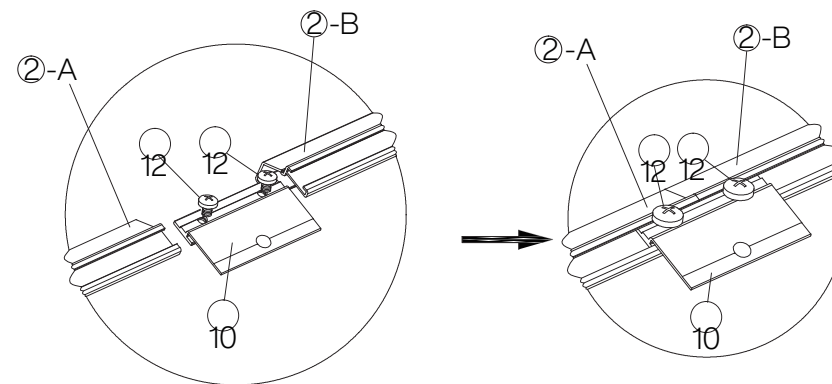
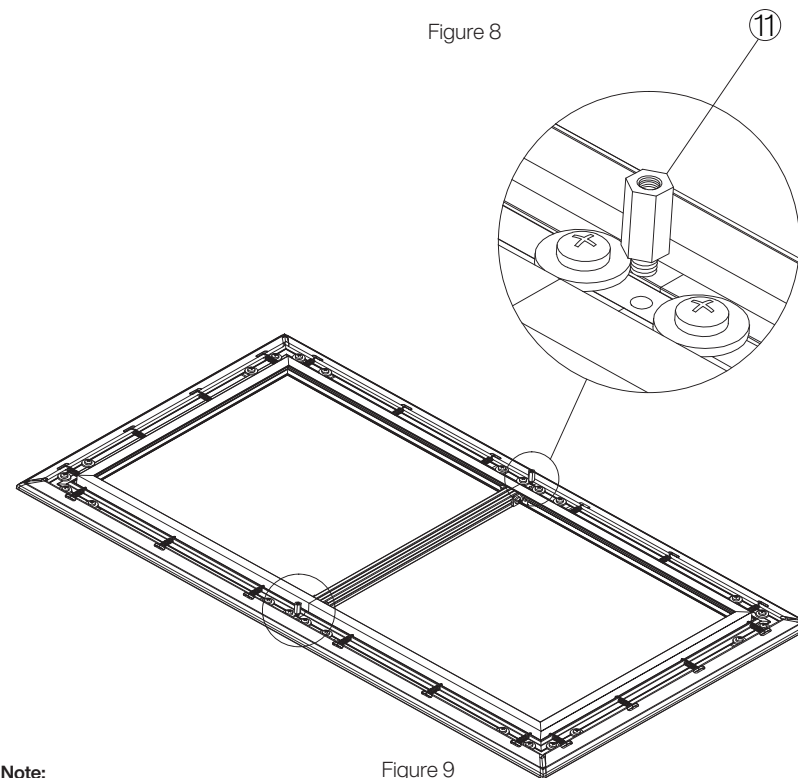

Figure 8
Figure 9
5.1 Splice the outer frame A and outer frame B into a complete frame (Figure 8), and drive the hexagonal studs into the long frame splicing strip (Figure 9)